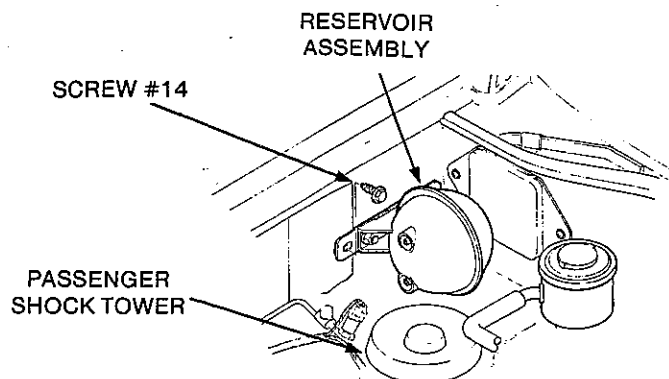

Figure 23
30. Mount the vacuum reservoir to the right fenderwell or fender inner panel with (1) one #14 self tapping screw provided. See **FIGURE 23**.